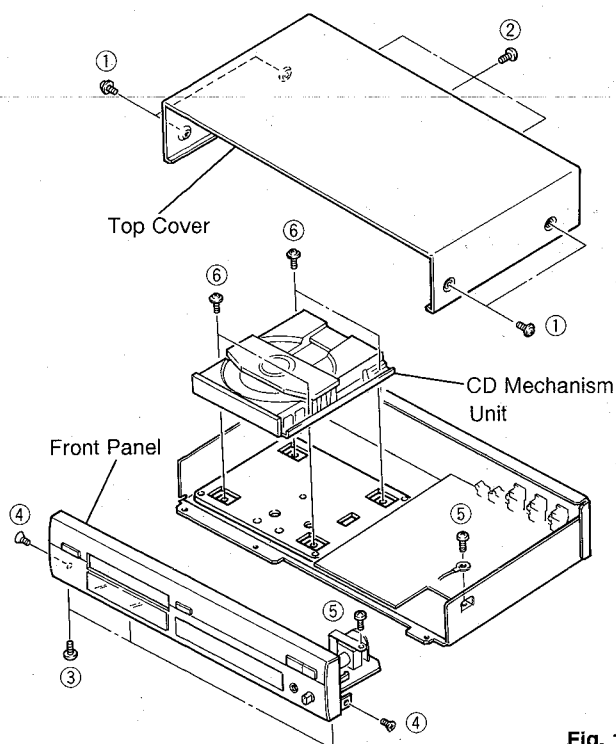

Fig. 1
- Remove 4 screws (①) and 3 screws (②) in Fig. 1.
- Remove 3 screws (③), 2 screws (④) and 2 screw (⑤) in Fig. 1.
- Remove 4 screws (⑥) in Fig. 1.